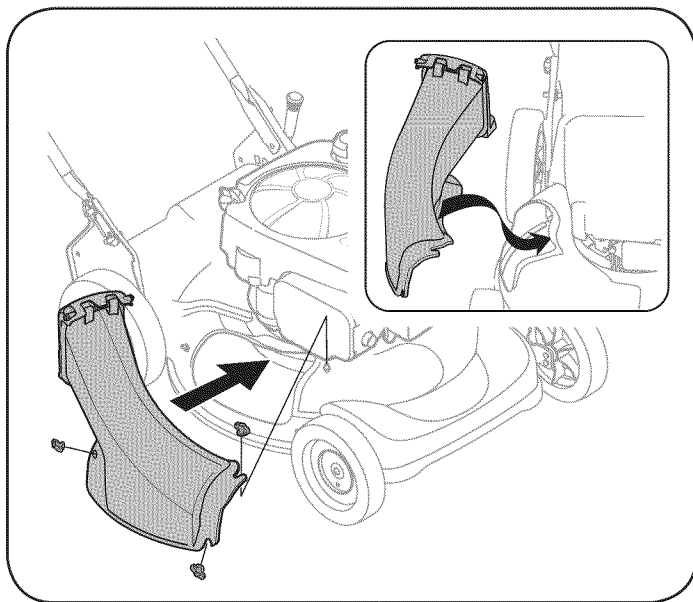

Figure 4
2. Replace with grass bag adapter, while making sure the front lip of adapter goes under the edge of the deck. See Figure 4. Secure with wing nuts previously removed.